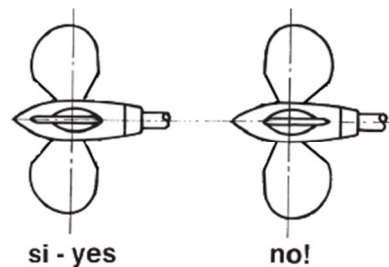

Fig. 2
- Move the blades into the feathered position, making sure that the rounded trailing edges of the blades are aft as shown in fig. 2.
- In the feathered position the blades must be perfectly lined up and set like fig. 2